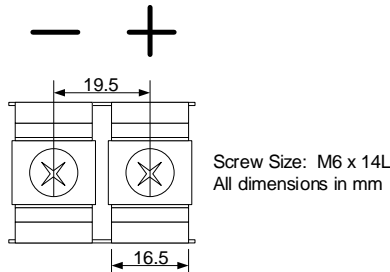

Figure 12 - DC Terminal Block Connections
3. Connect the negative and positive cables to the DC terminal block as shown in Figure 12. Connections should be tightened to a specified torque of 2.8 Nm (25 in-lb) +/- 5%.